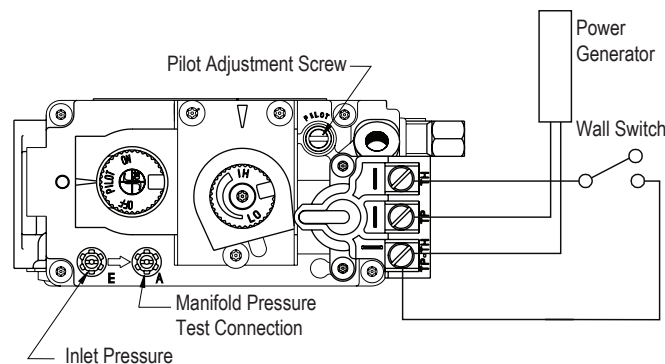

Figure 33. 'Pilot' Adjustment on the **L38DF-ST*** s gas valve.
1. Locate Pilot Adjustment Screw. (See **figure 33**.)
Pilot won't ignite	Disconnect remote wires and try to light pilot. If pilot now works, remote connections are faulty. Check wiring diagram figure 33 .
Main burner will not light	1. Check wiring (see figure 33). 2. Check wall switch for proper connection.